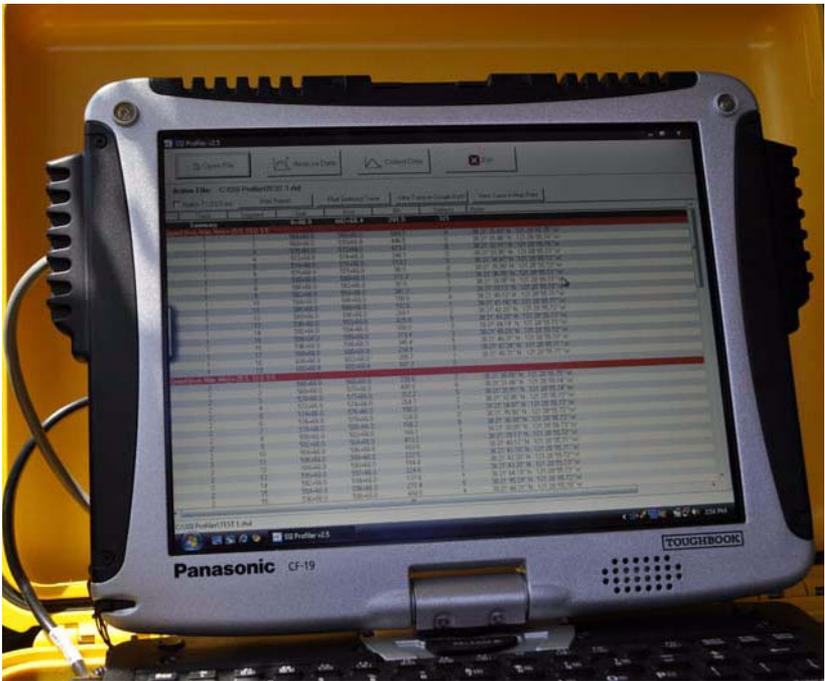

Figure 2-29. Power On the System
14. Power on the vehicle and the Toughbook computer. Double-click on the RTP-300 software icon on the computer's desktop to start the program (Figure 2-29).